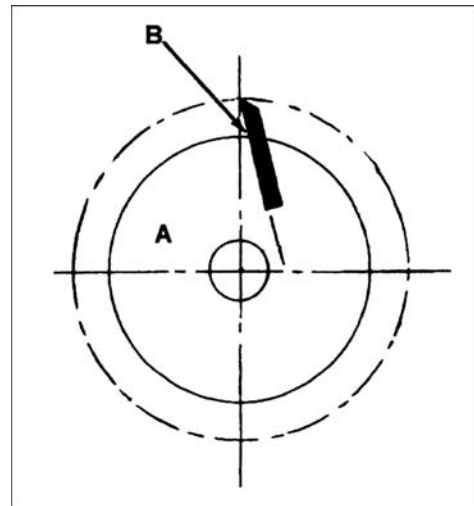

Figure 5
- **Cutterhead** (A, Figure 5) – metal cylinder that holds the planer knives or the molding cutters.
- **Planer Knife** – one of three knives found in the cutterhead used for planing. (B, Figure 5)